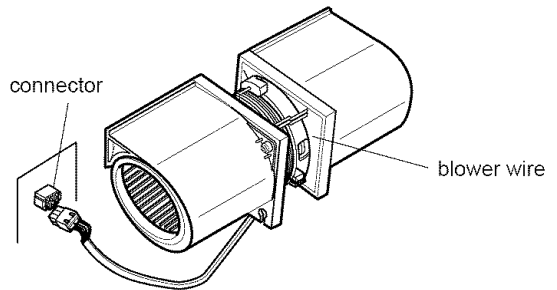

Figure 13
2. Carefully lift the blower unit out of the microwave oven. Disconnect the blower wire from connector. See **Figure 13**.